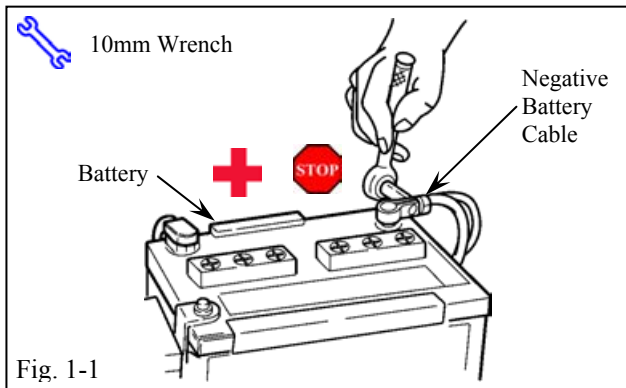

Fig. 1-1
- (a) Remove the negative battery cable. (Fig. 1-1)
- (1) Protect the fender before starting.
- (2) Be careful not to touch the positive terminal.